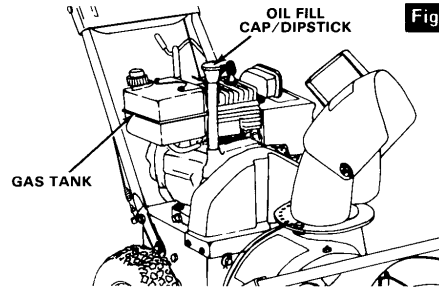

Figure 9
1. Remove oil fill cap/dipstick (figure 9) and fill crankcase with oil. See **Engine Operating and Maintenance** manual for proper procedure.